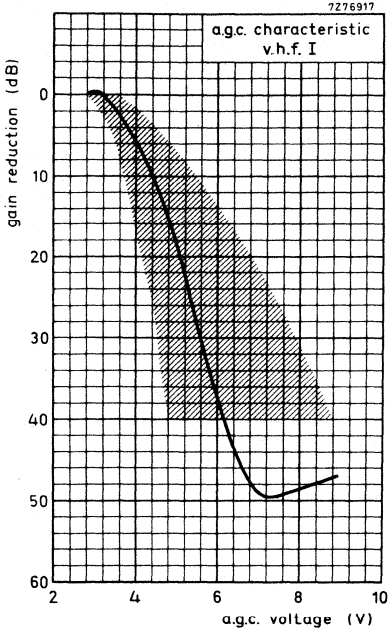

Fig. 5.
**A.G.C. voltage (Figs 5, 6 and 7)**